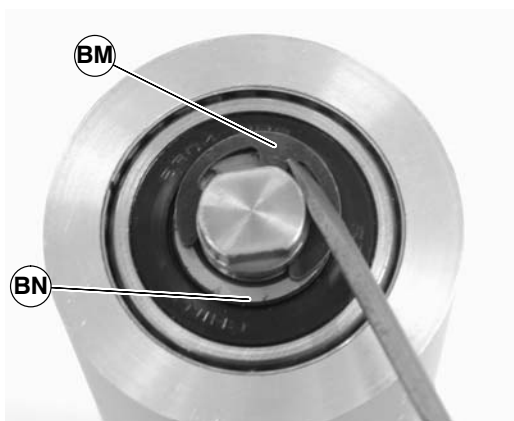

Figure 56
5. Remove the pulley shaft assembly: remove the clip ring (BM of Figure 56) and washer (BN) from one side of the pulley assembly.